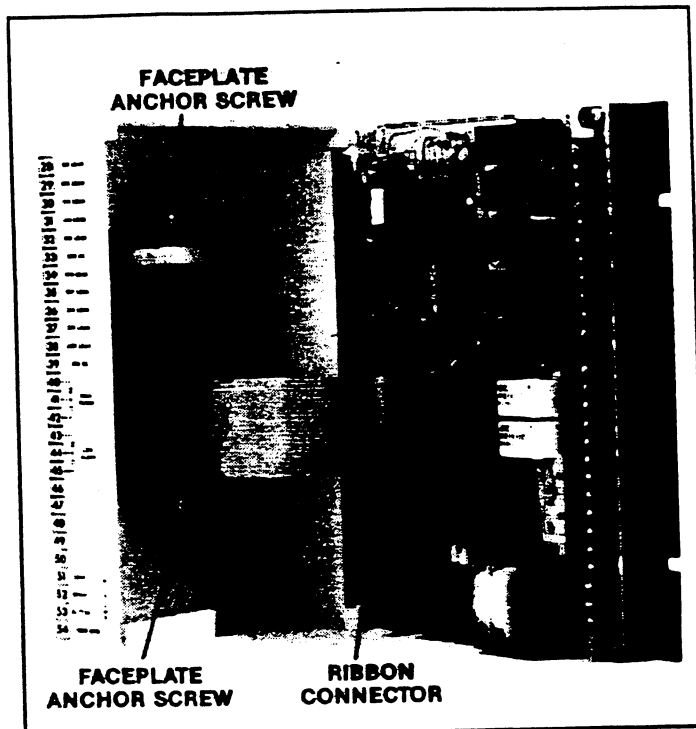

FIGURE 4-4
2. Gently lift the housing away from the electronics module and unplug the ribbon connector from the plug on the circuit board, as indicated by the arrow in Figure 4-4.
3. Loosen the upper and lower anchor screws which secure the faceplate into the controller housing, as indicated by the arrows in Figure 4-4.